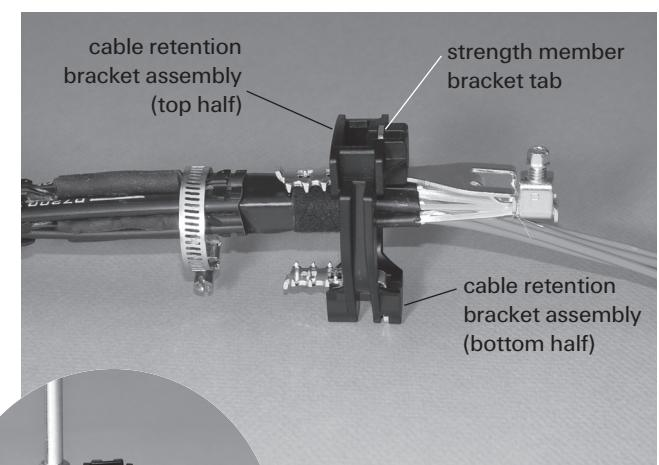

Figure 8
9. Position the cable retention bracket assembly so that the strength member bracket tab fits in the slot of the top half of the assembly, and the teeth of the retention clips surround the black felt tape. (Figure 8)
10. Install the hose clamp over the retention clips. Tighten the clamp such that retention bracket teeth seat fully into the black felt cable wrap. (Figure 8)